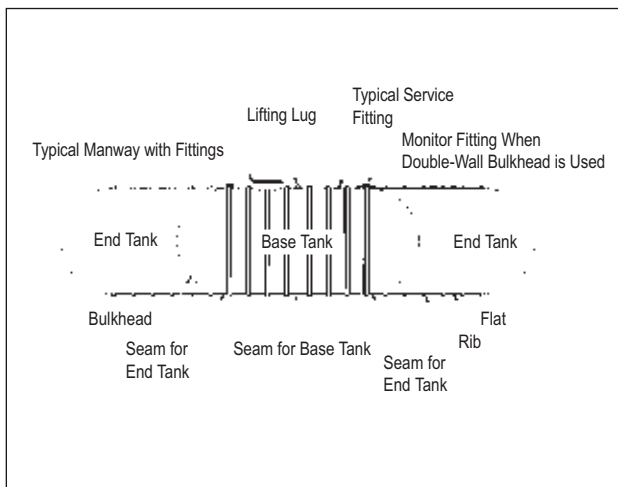

FIGURE 4-1
4.4.2.1. Install a test manifold in each compartment, that is, in the base tank and each end tank. (See FIGURE 4-1.)
4.5.2.1. Install a test manifold in each compartment, that is, in the base tank and each end tank. (See FIGURE 4-1.)